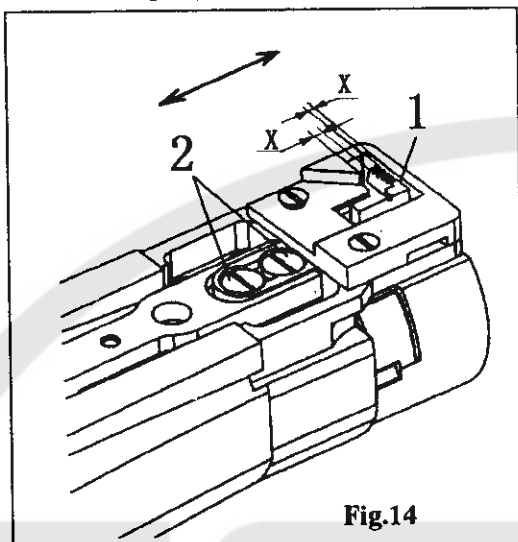

Fig.14
(1) Positioning the feed dog at an angle to the direction of sewing (Fig.14)